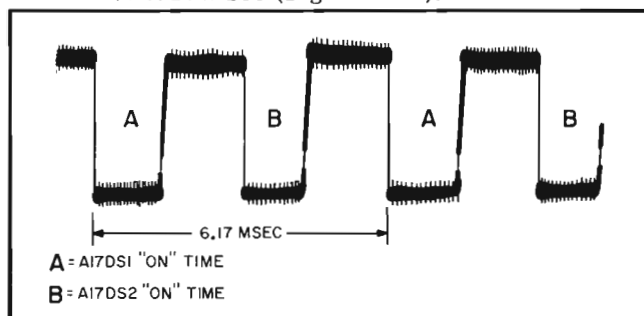

Figure 5-12. Main Loop Chopper Waveshape
- Adjust A8R20 for a repetition period (2 cycles) of 6.17 msec (Figure 5-12).